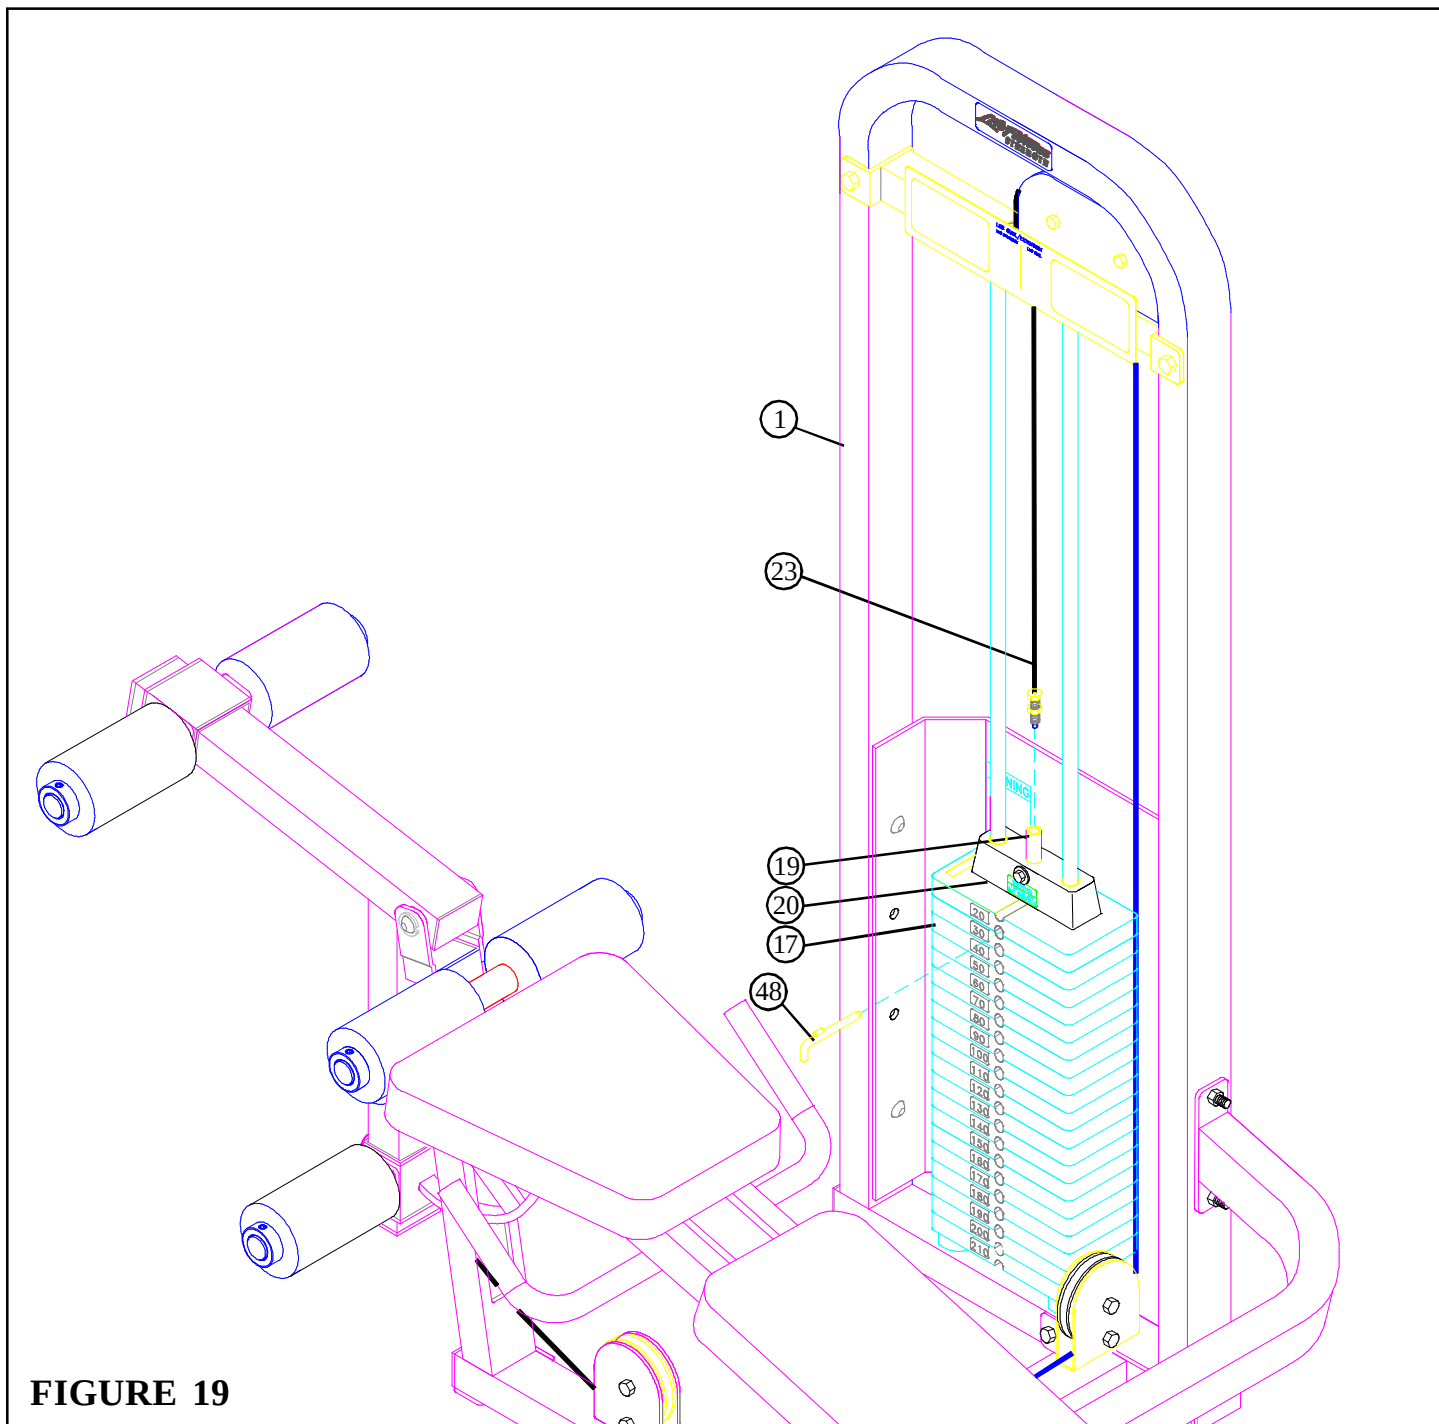

FIGURE 19
- Screw the threaded end of the CABLE (23) approximately 3/4" into the end of the WEIGHT STACK SHAFT (19) and tighten jam nut securely. See FIGURE 19.
- If the HEAD PLATE (20) does not sit on top of the first WEIGHT PLATE (17), push the head plate down, insert the SELECTOR PIN (48) and perform several repetitions on the machine. This will relax the cable system and prevent the HEAD PLATE (20) from lifting up.
- If after completing the previous step the HEAD PLATE (20) still does not sit on top of the first WEIGHT PLATE (17) or if there is excess slack in the cable system, adjust the threaded end of the CABLE accordingly and retighten the jam nut.